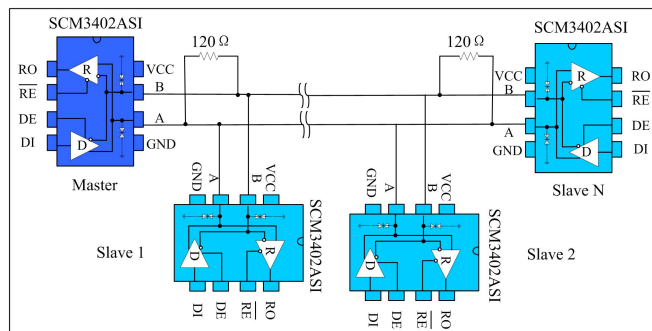

Figure 10. Bus lines type RS485 half-duplex telecommunication network
**Bus networking:** The SCM3402ASI RS485 transceiver is designed for bidirectional data communication on multi-point bus transmission lines. Figure 10 shows a typical network application circuit. These devices can also be used as linear repeaters with cable lengths longer than 4000 feet. To reduce reflections, terminal matching should be done at both ends of the transmission line with their characteristic impedance, and the length of the branch wires other than the main line should be as short as possible.